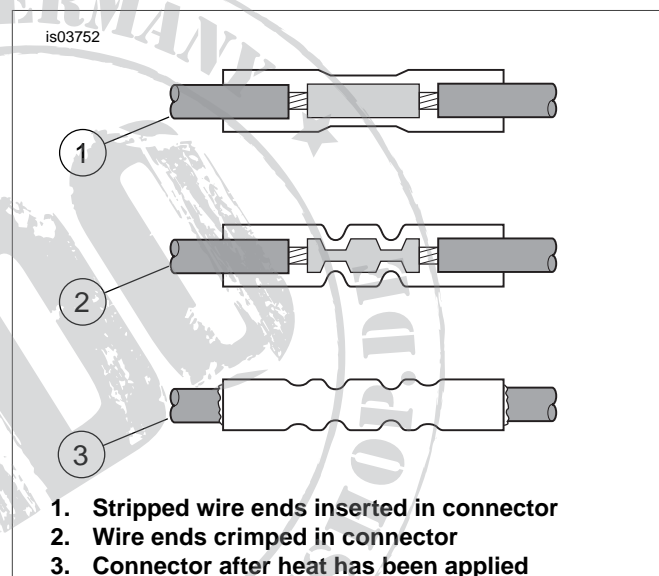

Figure 2. Sealed Butt Splice Connectors
2. See Figure 2. Insert turn signal wires prepared in Step 1 into opposite ends of a butt splice connector. Connect black to black and violet/brown to violet/brown.
4. See Figure 2. Using the Ultra-Torch, Heat Gun with Heat Shield Attachment, or other suitable radiant heating device, heat the crimped splice to encapsulate the butt splice connection. Apply heat from the center of the crimp out to each end until the meltable sealant exudes out of both ends of the connector.